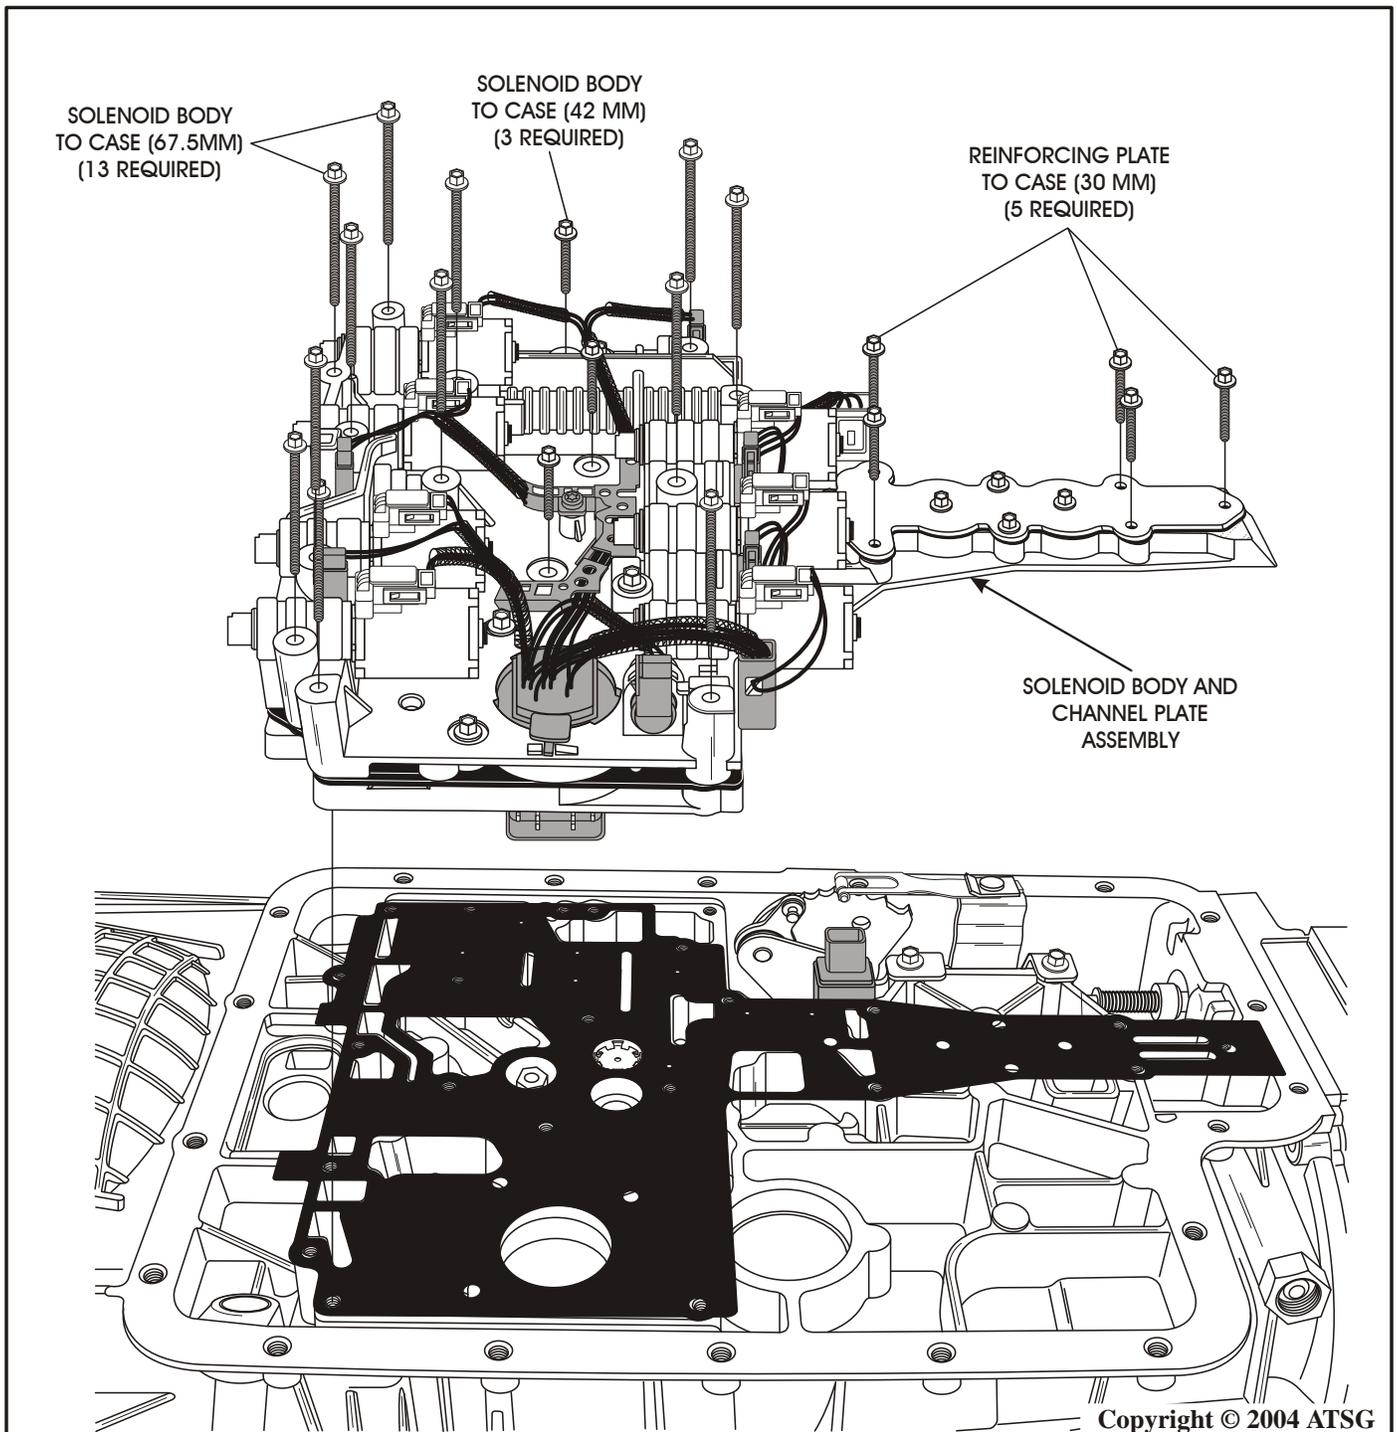

Figure 34
14. Remove only the valve body bolts *not shaded* in Figure 33, which are the bolts that retain the valve body to the case, as shown in Figure 34.
15. Remove the valve body from the case using a slight twisting motion to remove the main case connector from the case bore (See Figure 34).